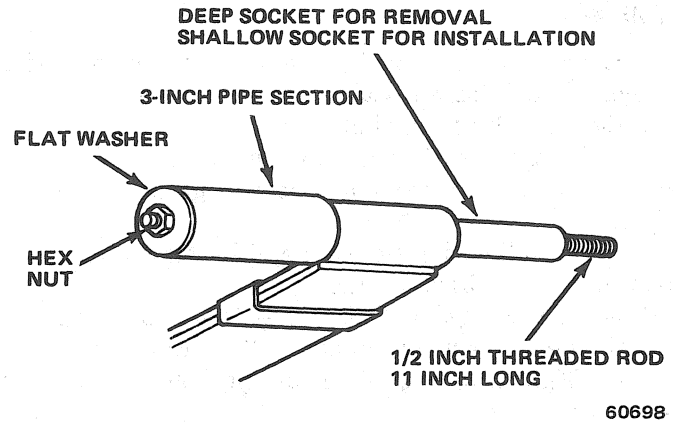

Fig. 2N-10 Bushing Replacement Tools—Large Bushing
- (3) Install one flat washer and one hex nut on rod behind socket (fig. 2N-10).
- (4) Install 3 inch (7.62 cm) long section of suitable size pipe on opposite end of rod. Pipe will serve as bushing receiver.